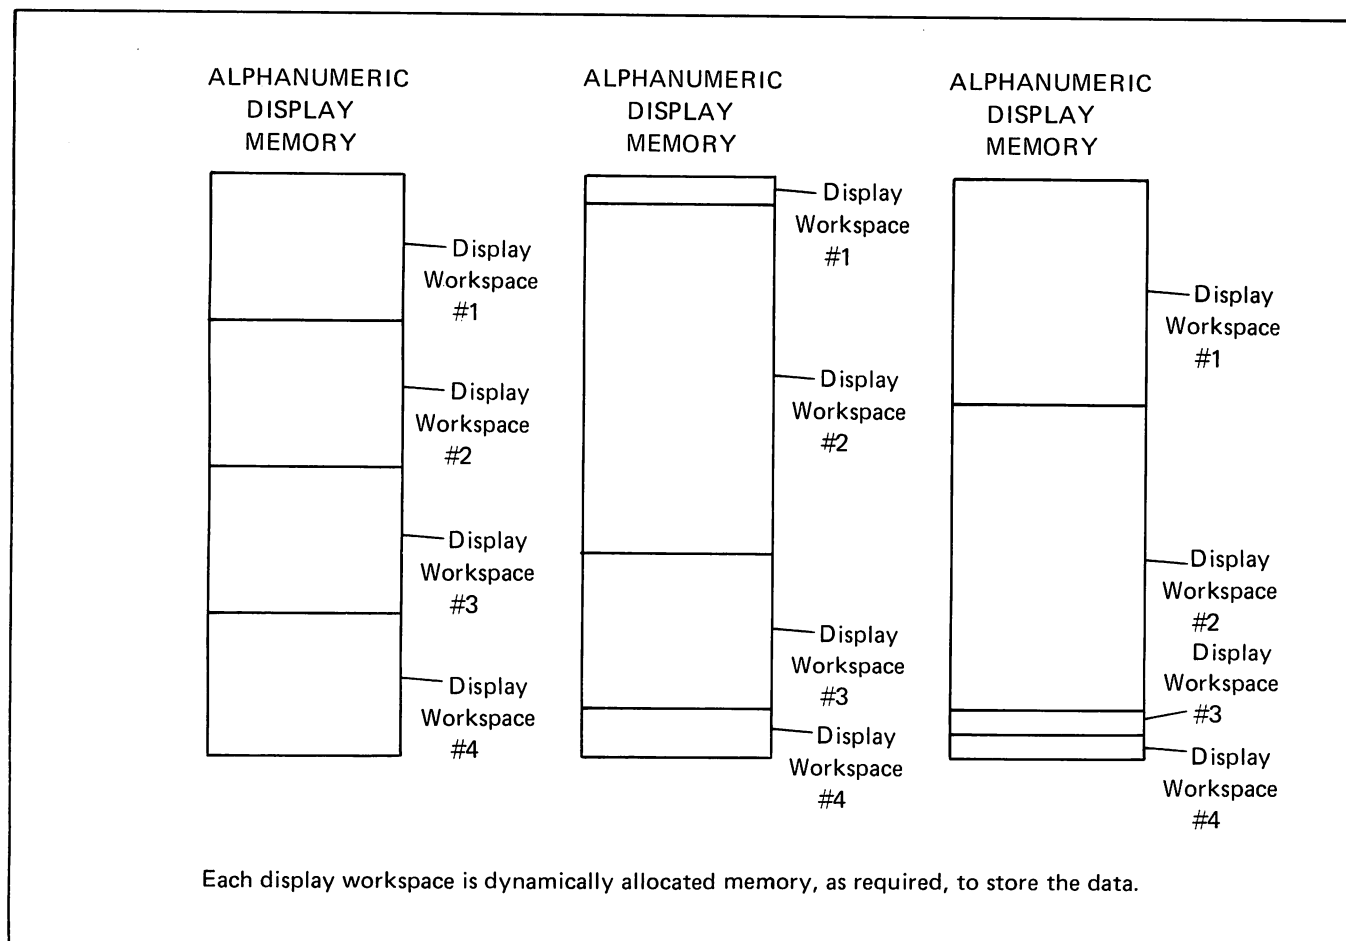

Figure 2-2. Three Examples of Display Memory Allocation to the Four Display Workspaces
**Display Workspace.** Only one display workspace can be displayed at a time. Cursor and display positioning operations operate independently in each workspace (i.e., you can roll up, roll down, next page, previous page, set margins and tabs, and position the cursor independently in each workspace.) As data is entered into a display workspace, it uses some of the alphanumeric display memory. If needed, the present display workspace will "steal" lines from the other workspaces that are not memory locked. Therefore, to preserve information in another workspace, it must be memory locked. At power on or full reset, windows #2 through #4 are memory locked. (Figure 2-2 shows examples of memory allocation for the four display memory workspaces.)